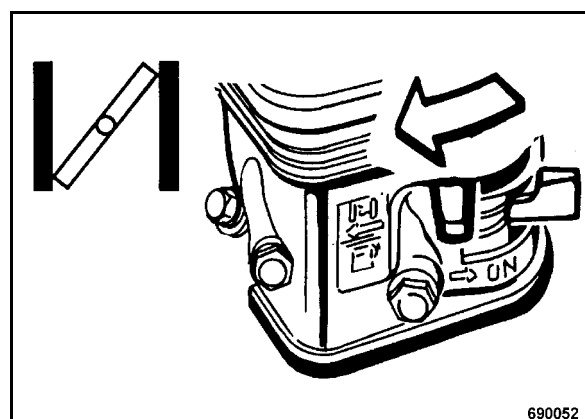

Fig. 24
- If the engine stops again after approx. 3 to 5 seconds, close the choke again with the lever (Fig. 24) and repeat the starting process.